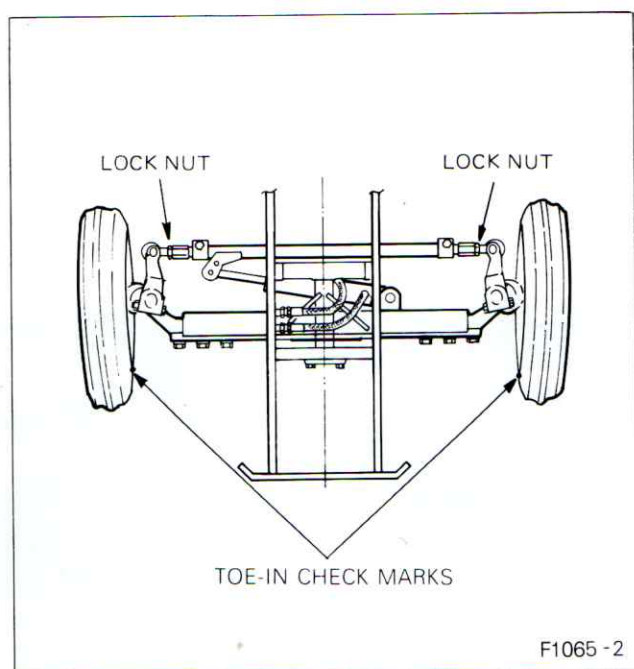

Figure 57 – Checking Toe-In
1. With the front wheels in the straight-ahead position, mark the front of the wheels (not the tires) at wheel hub height, Figure 57.